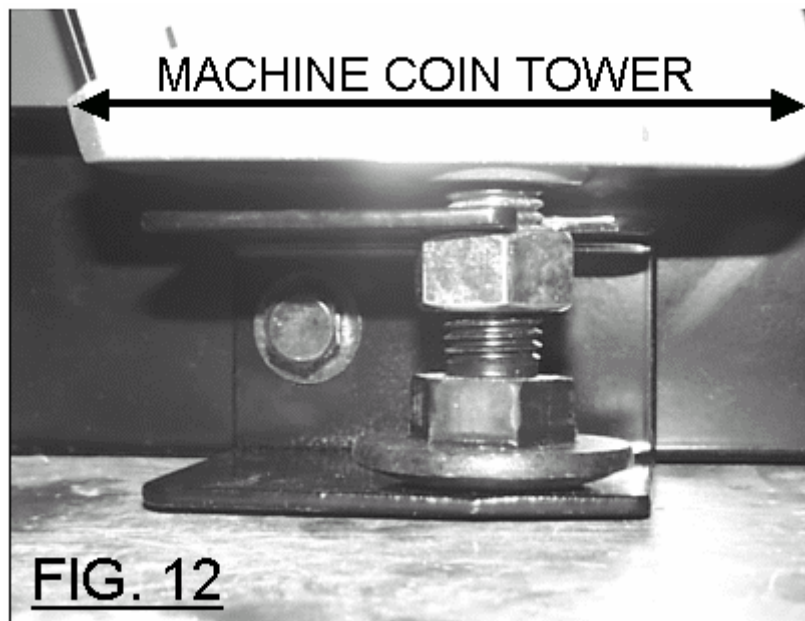

**FIG. 9**
11. Offer the Floor to the machine and fit the Flexipipe Elbow Joint into the recess as shown in Fig 9.